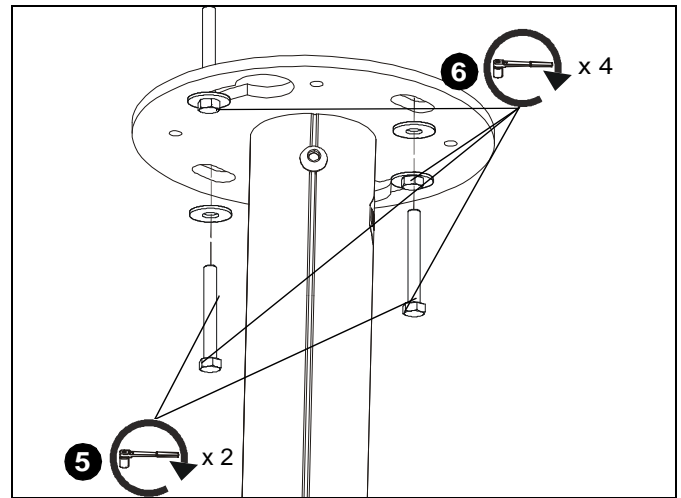

Figure 6
- Install two 5/16" x 2-3/4" (minimum) lag screws (not included) through holes on ceiling plate (A) and into holes drilled in wood stud cross bracing. (See Figure 6)
- Tighten all four lag screws to secure plate to ceiling. (See Figure 6)